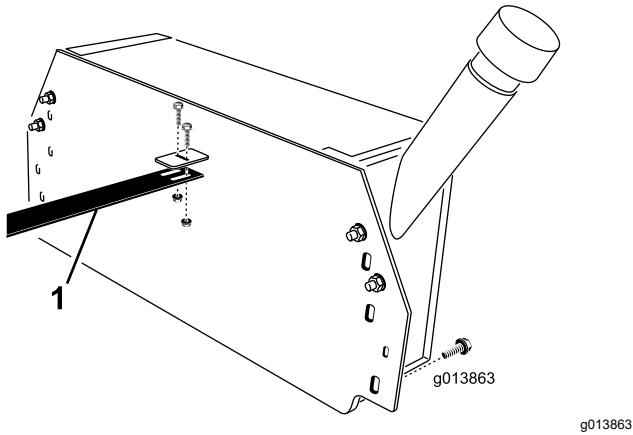

Figure 9
2. Using 2 bolts (1/4 x 3/4 inch) and flange locknuts, attach the hose guide to the bracket on the hydraulic tank (Figure 9).